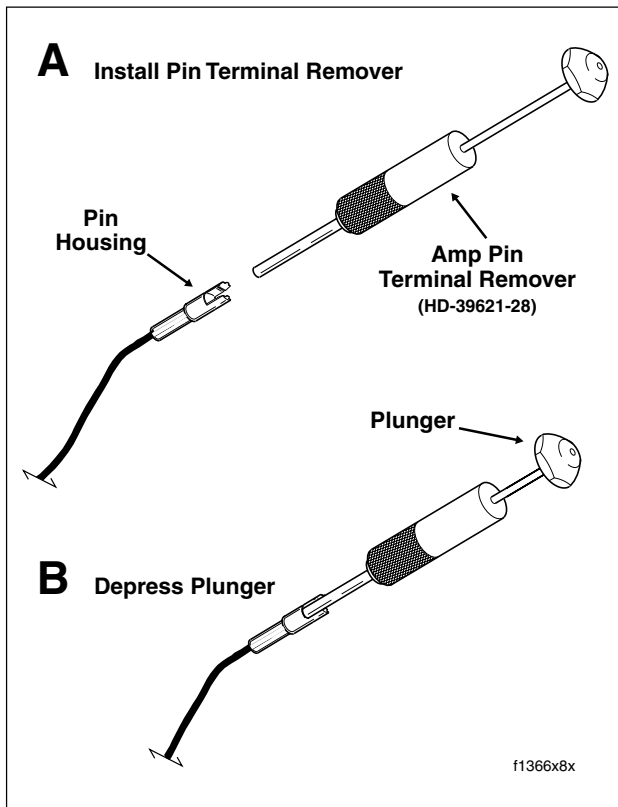

Figure 8-59. Remove Terminal from Amp Pin Housing
3. Fit the barrel of the Amp Pin Terminal Remover (HD-39621-28) over the pin, and while rotating the tool slightly, push until it bottoms in the housing. Allow the plunger to “back out” of the handle. See Figure 8-59.